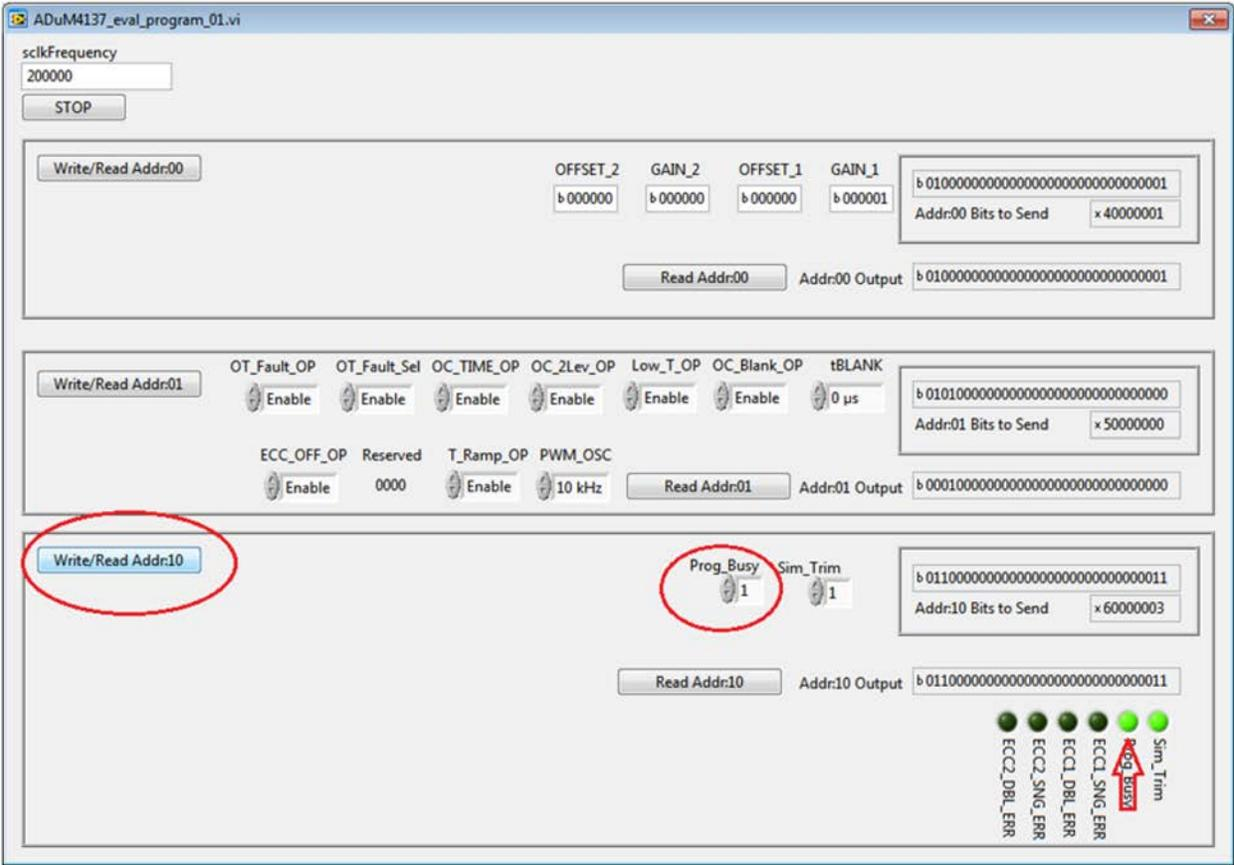

Figure 14. Programming the EEPROM
1. Set the **Prog\_Busy** field to 1 and then click **Write/Read Addr:10** (see Figure 14). The **Write/Read Addr:10** button performs a write, and then performs a read. The **Prog\_Busy** green indicator lights up because the read command occurs quickly after the write, and the PROG\_BUSY bit in the ADuM4137 is 1 while the device is being programmed.